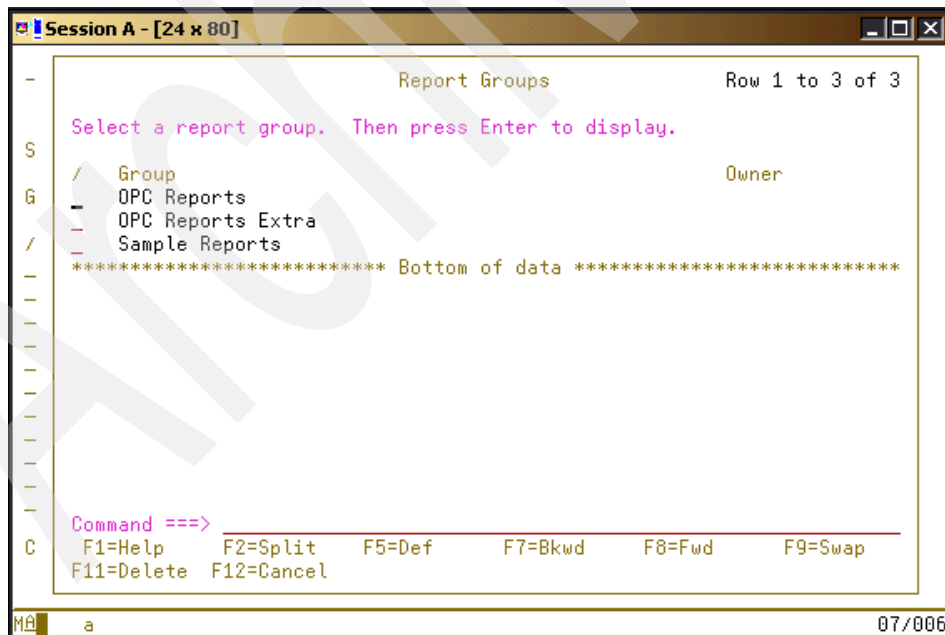

Figure 6-29 Extra component report group
3. Press F4 (Groups) to see the list of report groups. The OPC Reports Extra group is listed as shown in Figure 6-29.